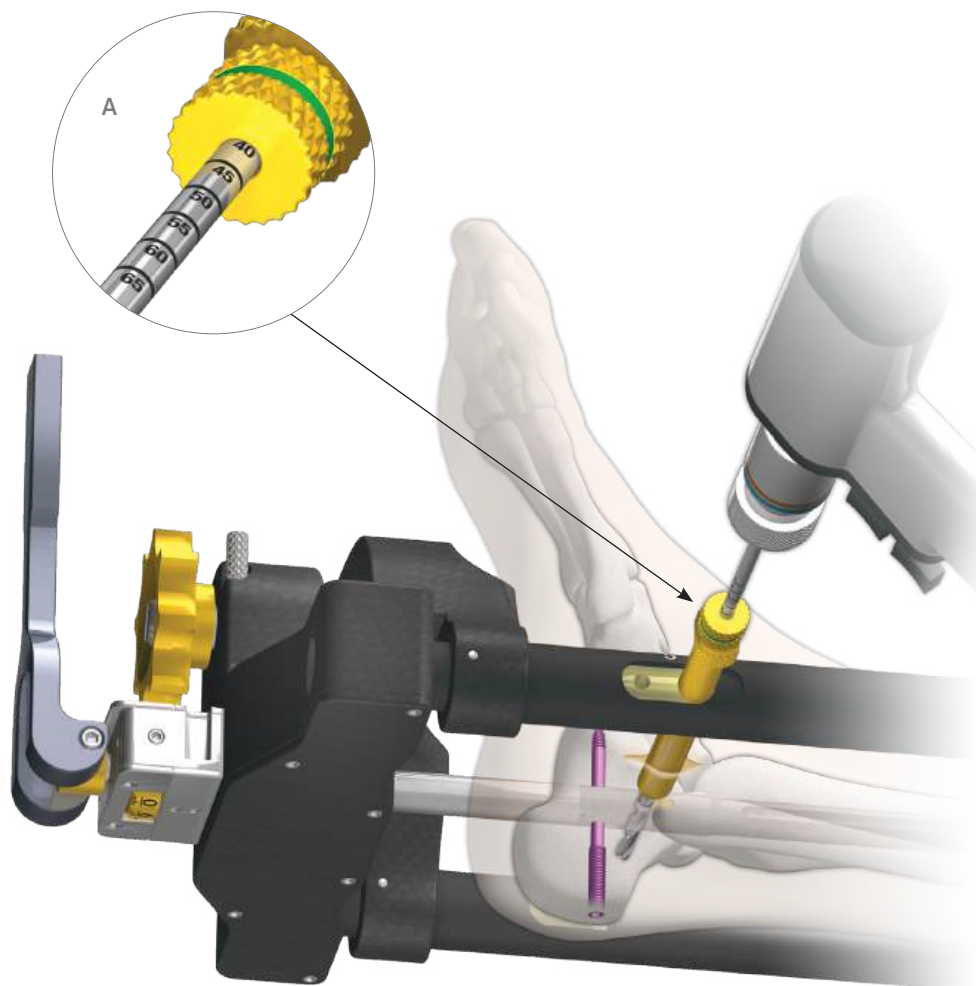

FIGURE 23
1. 8 mm Guide Sleeve (7)
2. Trocar Obturator (5)
3. 4 mm Drill Guide (6)
4. 4 mm Drill (20)
5. Drill Guide Screw Depth Gauge (*Optional*) (11)
6. Wide 3.5 mm Hex Driver (15)
7. Blue-Handle Ratchet Driver (6)
Thread the Trocar into the 8 mm Guide Sleeve. Insert the 8 mm Guide Sleeve and Trocar assembly into the lateral side of the DynaFrame™ Assembly. Make an incision at the Trocar tip and abut the Trocar against the calcaneus. Distal retraction of the peroneal tendons can sometimes be done to allow direct contact of the Trocar against bone. Leaving the Guide Sleeve in place, replace the Trocar with the 4 mm Drill Guide (A). Ensuring the Drill Guide is NOT resting against the bone, drill bicortical with the 4 mm Drill and measure the screw length off the Drill Guide in the same manner as previously described in Step 11 (FIGURE 23). Alternatively, the Screw Depth Gauge can be used to determine screw length. Note that the Screw Depth Gauge must also be read off of the Drill Guide as it abuts the bone.